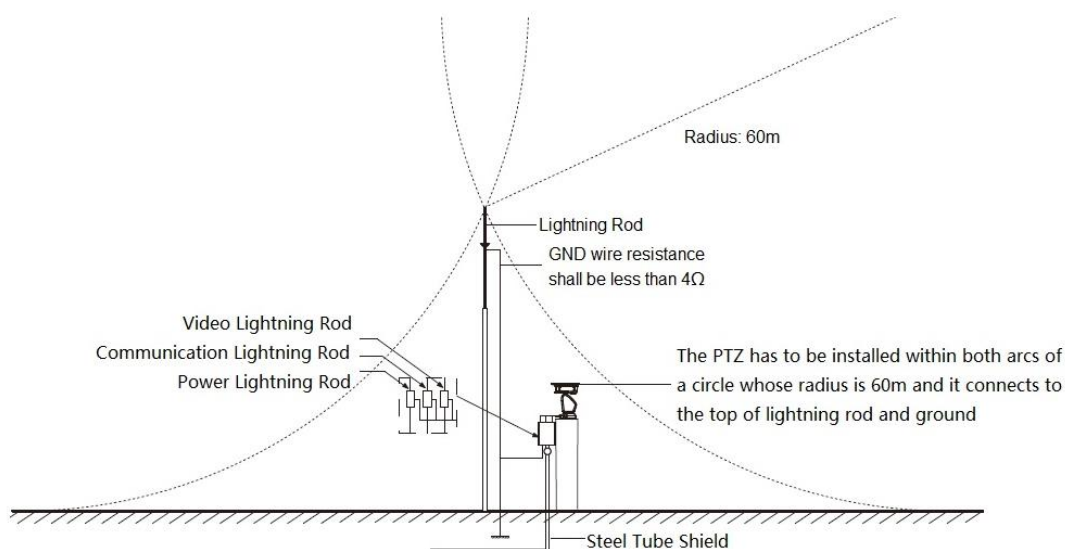

Figure 4-1
- System shall adopt equal-potential wiring. The earth device shall meet anti-jamming and at the same time conforms to your local electrical safety code. The earth device shall not short circuit to N (neutral) line of high voltage power grid or mixed with other wires. When connect the system to the earth alone, the earth resistance shall not be more than $4\ \Omega$ and earth cable cross-sectional area shall be more than $25\ \text{mm}^2$. See Figure 4-1.